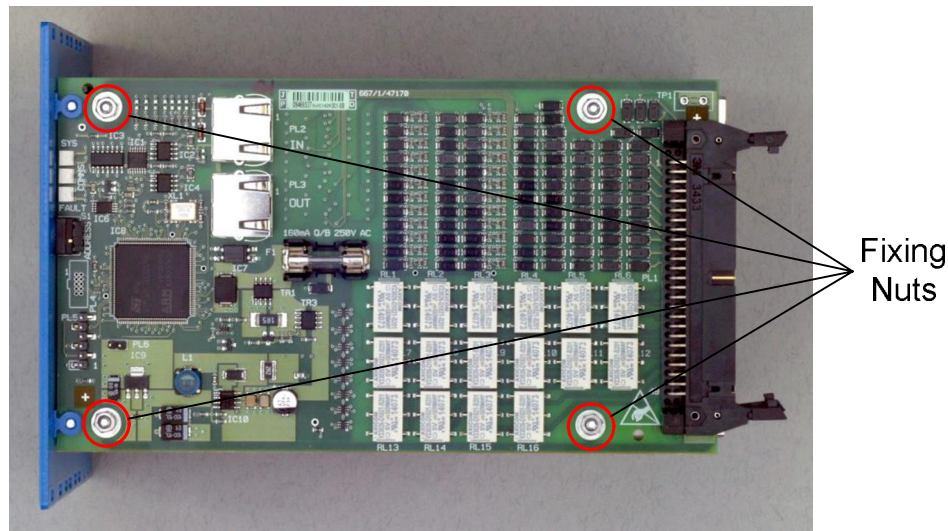

Figure 22 – I/O Board Fixings
2. Remove the four nuts and spring washers shown in Figure 22 below.